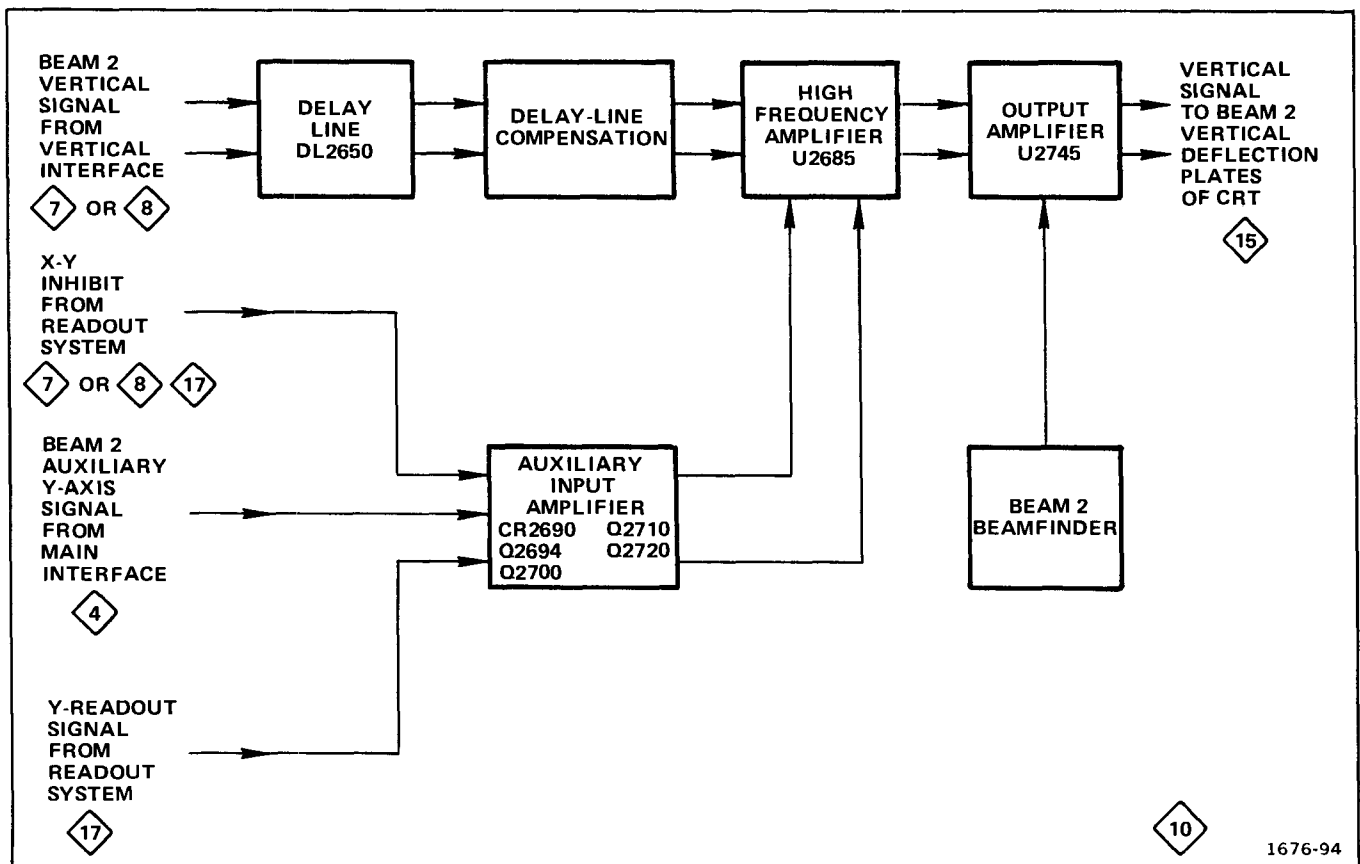

Fig. 3-17. Detailed block diagram of the Beam 2 Vertical Amplifier circuit.
accepts the auxiliary Y-axis input from the Main Interface circuit (diagram 4). Figure 3-17 shows a block diagram of the Beam 2 Vertical Amplifier and a schematic is shown on diagram 10 in the Diagrams section of this manual.
The Beam 2 Vertical Amplifier contains readout circuitry in the Auxiliary Input Amplifier stage (see Fig. 3-17); otherwise, operation is identical to the Beam 1 Vertical Amplifier. The Beam 2 Vertical Amplifier circuit numbers are in the 2000-series, whereas, the Beam 1 Vertical Amplifier circuit numbers are in the 1000-series. For example, U1685 on the Beam 1 Vertical Amplifier (diagram 9) corresponds to U2685 on the Beam 2 Vertical Amplifier (diagram 10). Therefore, the Beam 1 Vertical Amplifier discussion applies to the Beam 2 Vertical Amplifier, except for circuit numbers and the Auxiliary Input Amplifier discussion.
When Readout is not displayed, Q2694 and Q2700 are off. The auxiliary Y-axis signal at J2690 is coupled through CR2690 to the base of Q2720. Transistors Q2720 and Q2710 form a paraphase amplifier to convert the single-ended auxiliary Y-axis input signal to a push-pull signal, which is coupled to the bias inputs of U2685 (refer to Fig. 3-17).
When readout is displayed, the X-Y inhibit signal (HI) at J2738 turns on Q2694. The collector of Q2694 drops, which reverse biases CR2690 and turns on Q2700. The auxiliary Y-axis signal at J2690 is blocked and the Y-readout signal at J2799 is coupled to the base of Q2720. Transistors Q2720 and Q2710 form a paraphase amplifier to convert the single-ended Y-readout input signal to a push-pull signal that is coupled to the bias inputs of U2685 (refer to Fig. 3-17). When Q2700 is on, Readout Centering adjustment R2700 provides vertical centering of the readout display.